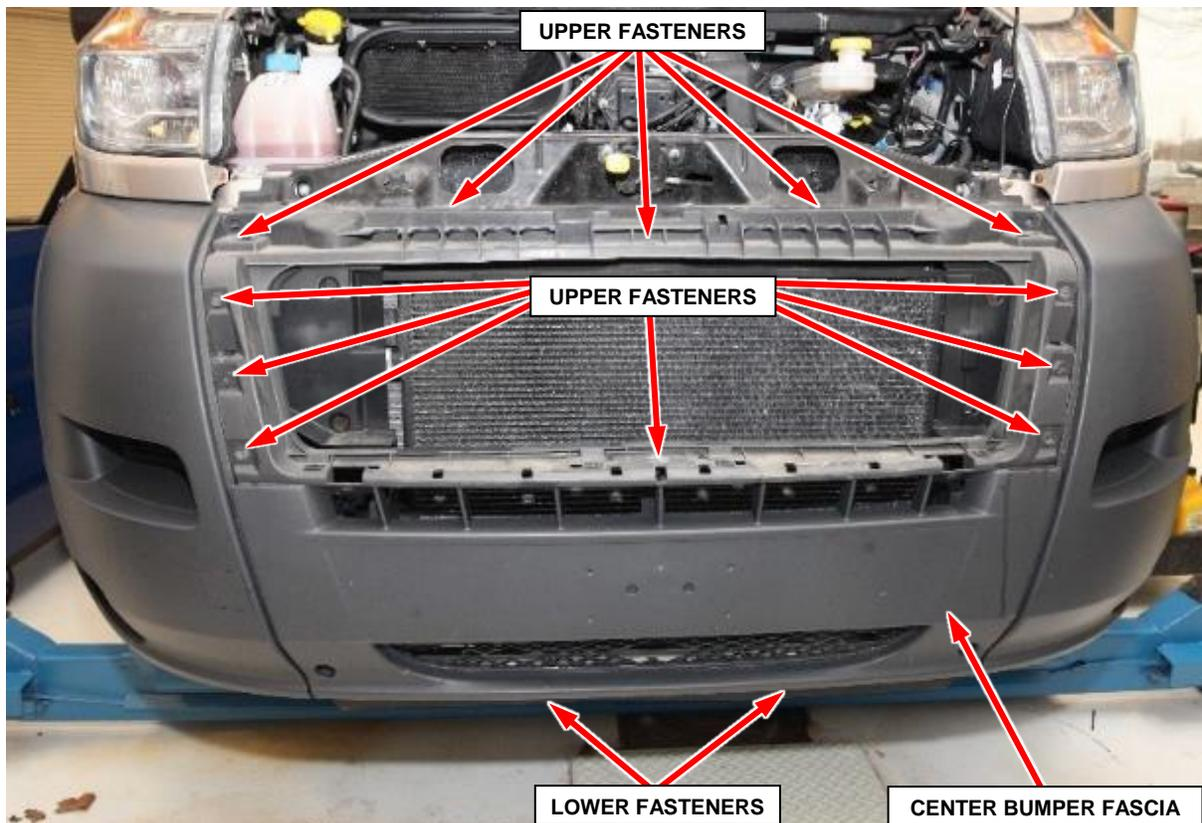

Figure 13 – Front Center Bumper Fascia
5. Remove the two lower fasteners securing the center bumper fascia (Figure 13).
6. Remove the twelve upper fasteners securing the center bumper fascia (Figure 13).
7. Remove the center bumper fascia from the vehicle (Figure 13).
35. Position the center bumper fascia to the vehicle (Figure 13).
36. Install the twelve upper fasteners securing the center bumper fascia and tighten securely (Figure 13).
37. Install the two lower fasteners securing the center bumper fascia and tighten securely (Figure 13).